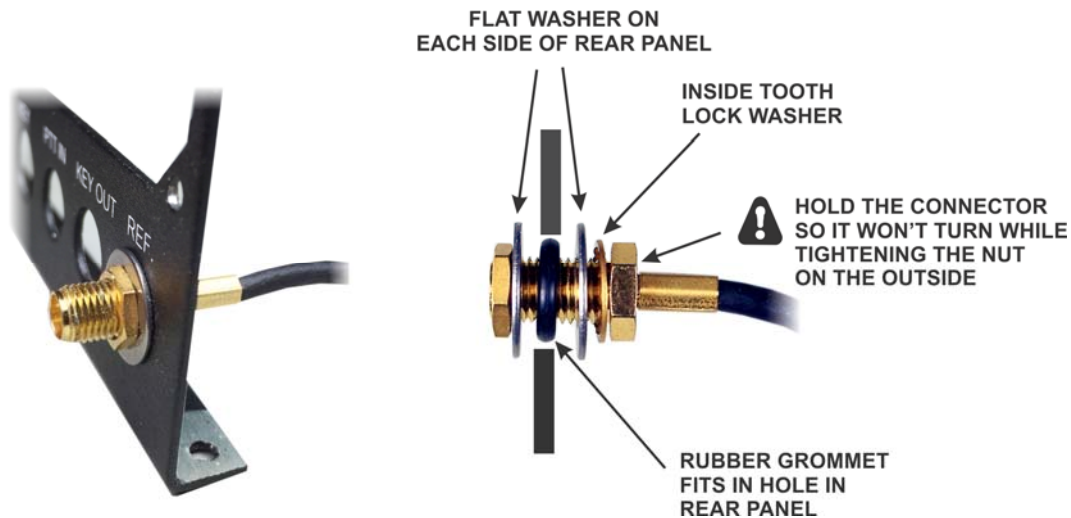

Figure 3. Mounting the SMA connector.
- Install the SMA connector in the REF. hole as shown in Figure 3. Note that the rubber grommet fits inside the rear panel hole to center the connector.